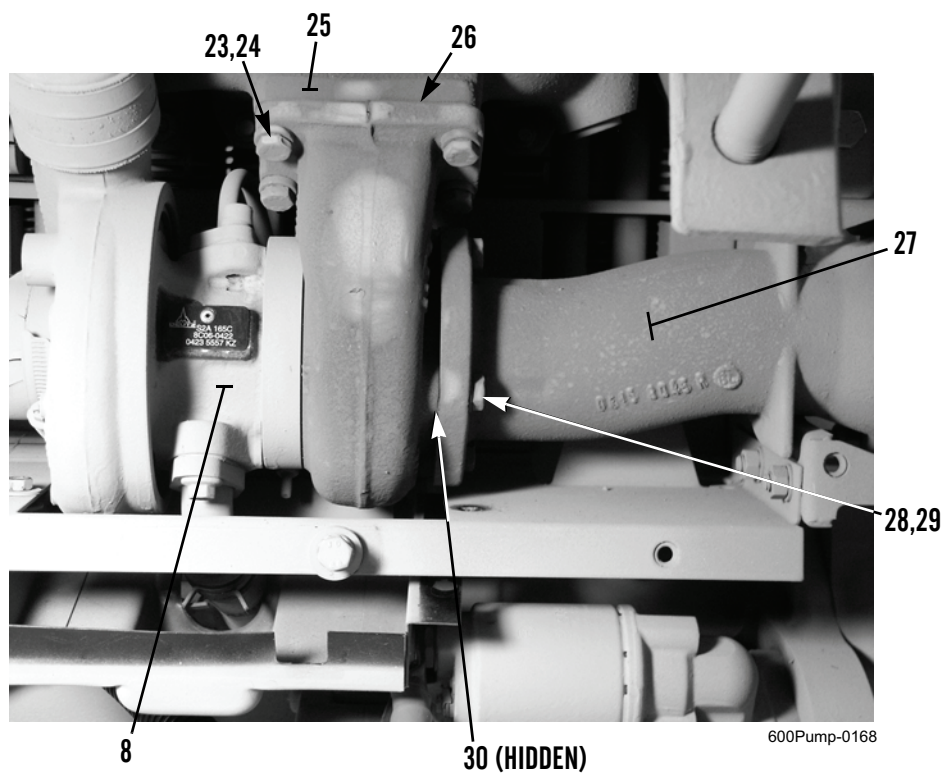

Figure 4. Turbocharger Exhaust Pipe.
7. Remove four bolts (Figure 4, Item 23), washers (Figure 4, Item 24), gasket (Figure 4, Item 26), and turbocharger (Figure 4, Item 8) with exhaust pipe (Figure 4, Item 27) from exhaust manifold (Figure 4, Item 25). Discard gasket.
8. Remove four bolts (Figure 4, Item 28), lockwashers (Figure 4, Item 29), and gasket (Figure 4, Item 30) and separate turbocharger (Figure 4, Item 8) from exhaust pipe (Figure 4, Item 27). Discard gasket and lockwashers.
1. Install new gasket (Figure 4, Item 30), four new lockwashers (Figure 4, Item 29), and bolts (Figure 4, Item 28) on turbocharger (Figure 4, Item 8) and exhaust pipe (Figure 4, Item 27).
2. Install new gasket (Figure 4, Item 26), turbocharger (Figure 4, Item 8) with exhaust pipe (Figure 4, Item 27), four washers (Figure 4, Item 24), and bolts (Figure 4, Item 23) on exhaust manifold (Figure 4, Item 25).